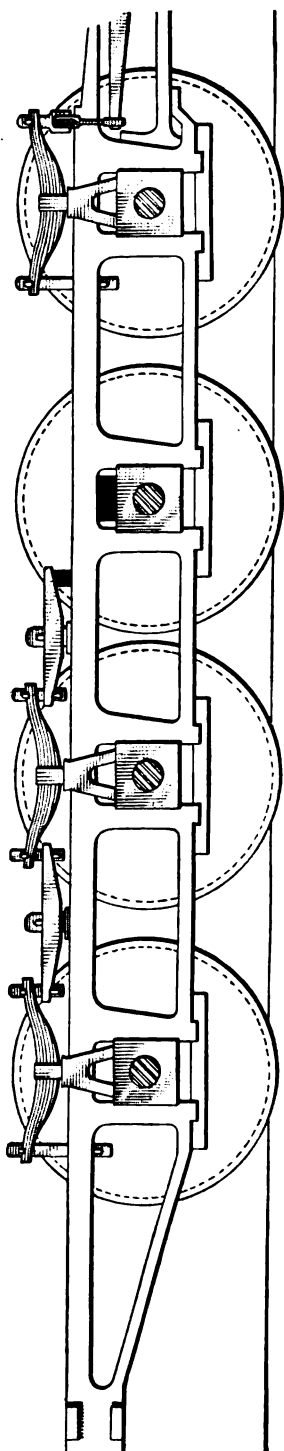

FIG. 58.
**130.** Whenever the second driving spring breaks, place a block between the top of the front driving box and the frame, as shown in Fig. 58, so as to take up the play, and run this driver up on a wedge sufficiently high to raise the frame the proper height above the second driving box; then block between the top of the second driving box and the frame so as to make the second driver carry its share of the weight. Next pry up the front end of the front equalizer to its normal position and block between this end and the frame in order to hold it in that position. This will permit of the use of all the springs except the broken one, and the engine will ride rigidly on the second driver on the disabled side. The front driver should be run off the wedge and the block removed from between its driving box and the top frame before proceeding.